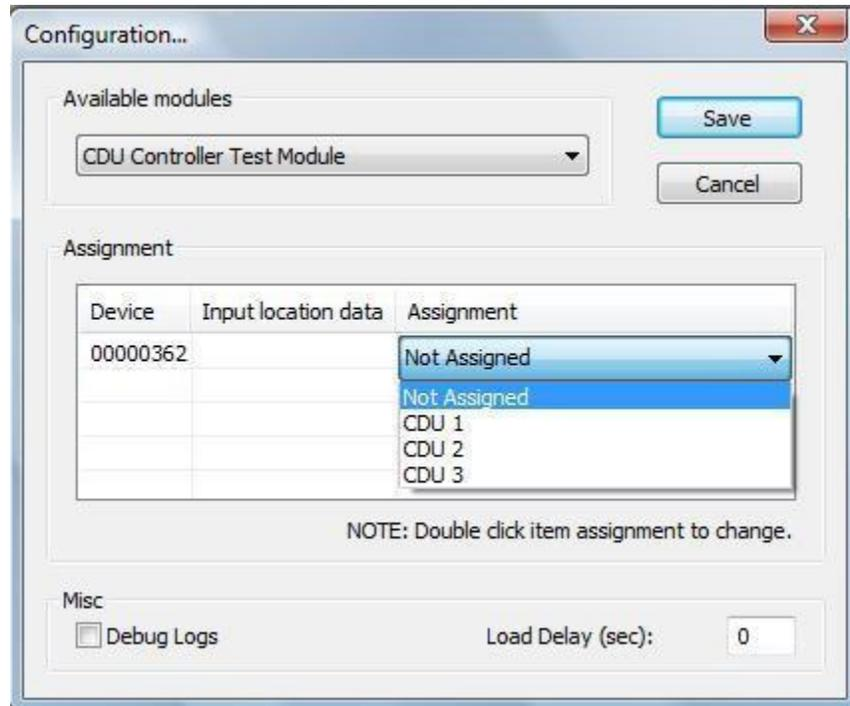

Fig.3
2. Select **Test Module** from the drop-down menu. (Fig.3)
3. Select CDU1 in the Drop-down menu. (Fig.3)